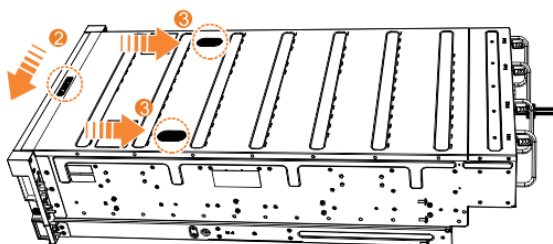

Figure 99. Replacing the top cover
7. Push the cover release lever to the side (2) as shown in Figure 99 on page 160.
8. Slide the cover towards the back of the enclosure (3) back until it stops, as shown in Figure 99 on page 160.